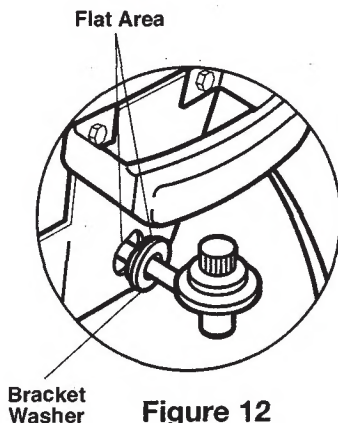

Figure 12
7. Assemble bracket washer to bracket by turning washer clockwise. **Figure 12.**